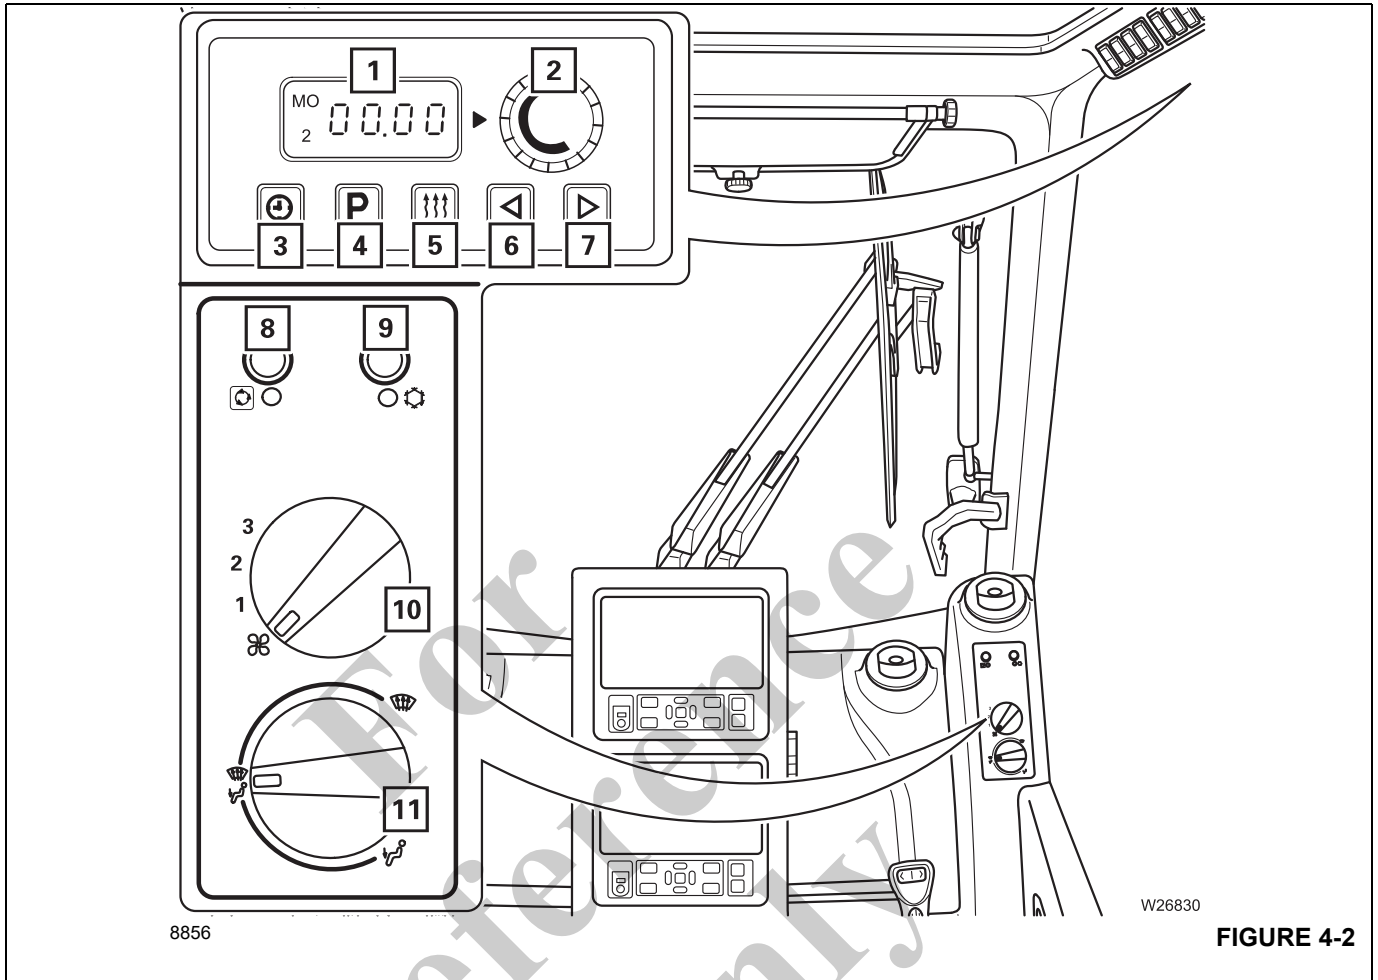

FIGURE 4-2
- Press the button (5), (Figure 4-2) once.
Turn the knob (2, Figure 4-2) clockwise.
Turn the switch (10, Figure 4-2) clockwise.
Press the button (8), (Figure 4-2) – lamp goes out.
Turn the switch (11), (Figure 4-2) clockwise.
Press the button (3), (Figure 4-2) for longer than 2 seconds.
Set the current weekday on the flashing display – button (6), (Figure 4-2) or (7).
To retrieve a storage location, press the button (4), (Figure 4-2) once.
Set the time for the desired heating start e.g. 8:00 – button (6), (Figure 4-2) or (7)
Set the weekday for the desired heating start – button (6), (Figure 4-2) or (7).
Switch off the heating system using the button (5), (Figure 4-2).
To switch off, press the button (5), (Figure 4-2) once. The heater goes off immediately.